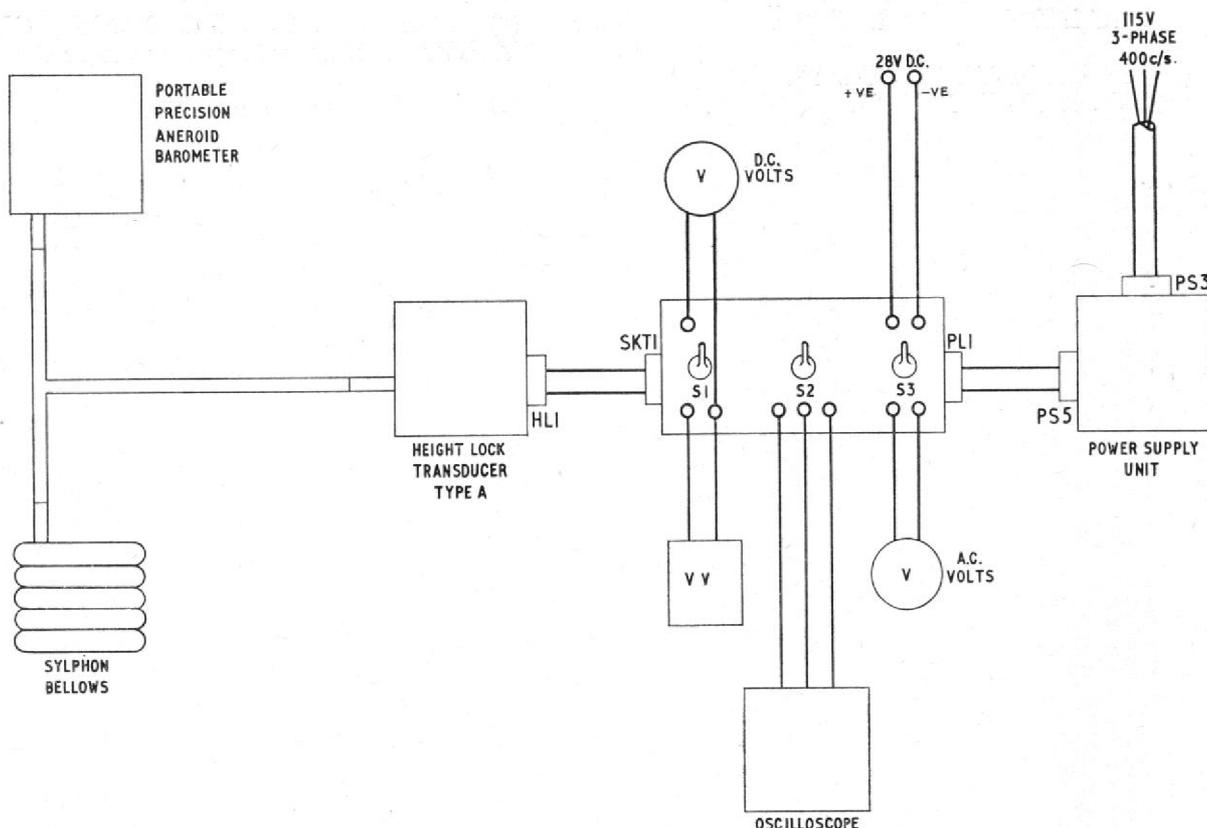

Fig. 3. Connections for checking height lock output
- (2) Set the aneroid barometer to the ambient pressure.
- (3) Interconnect the transducer, sylphon bellows and aneroid barometer as shown in fig. 3.
- (4) Switch on the power supplies.
- (5) Set S3 to the on position.